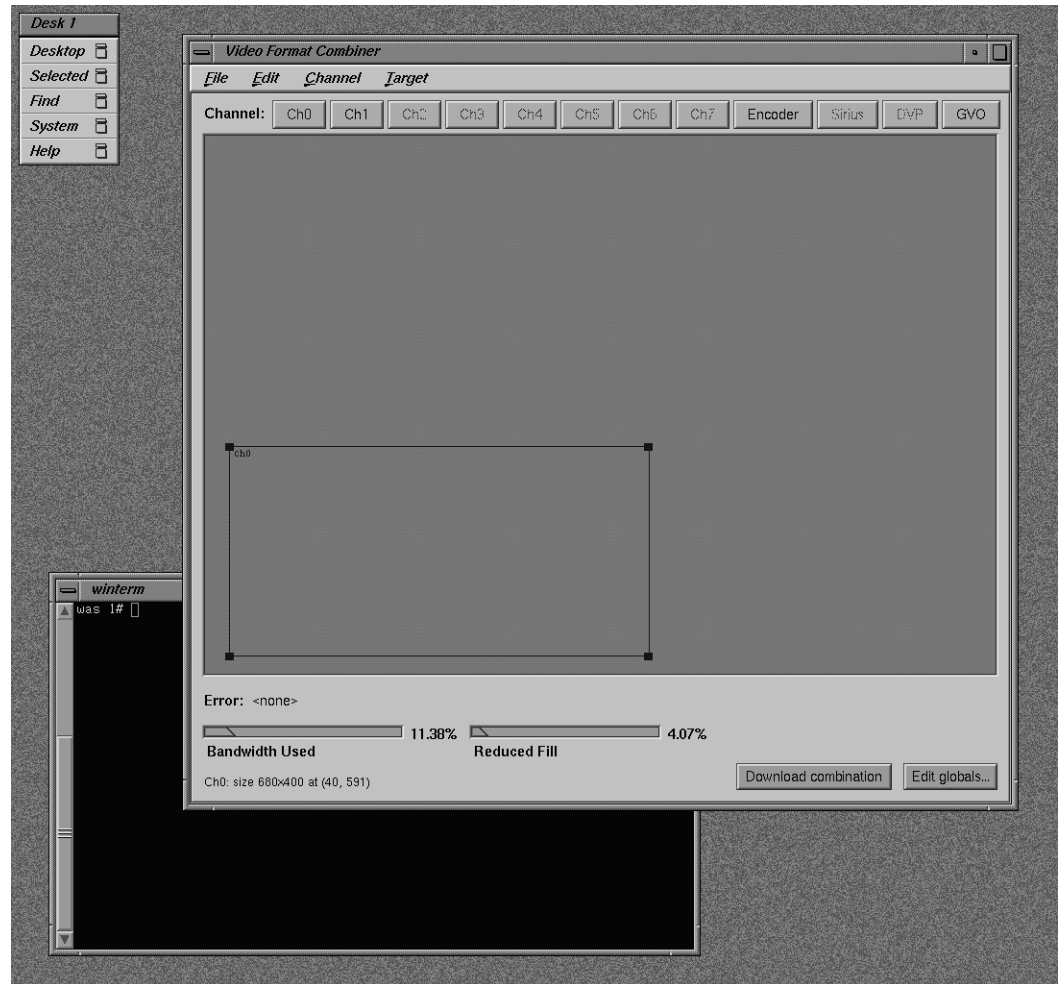

Figure A-10 Combiner Window During Resizing
6. Move the cross (cursor) into the IRIX shell window and click the mouse button. The rectangle in the Combiner’s main window representing Ch0 now represents the area of the framebuffer covered by the 80 x 24 IRIX shell that you clicked in. See Figure A-10 for a screen example.